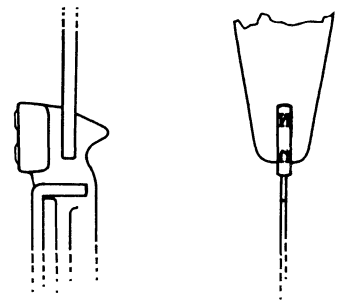

Figure 12. Moving Type to Right or Left
5. An aligning wrench is used to center or straighten a type face between two N's. Place the typebar in the guide and pull the typebar slightly to either side with an aligning wrench (Figure 12). This procedure has greater effect on an upper case character of double case type than on the lower case. It can be used particularly well with the single case type styles used on EAM typewriters.